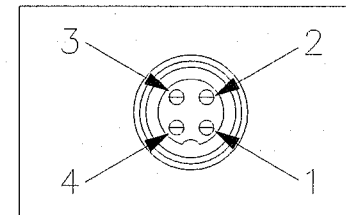

**Fig. 2** Microphone plug wiring
4. Feed the microphone cable through the housing, knurled ring and washer as shown Fig. 2.
Be sure that the housing and the knurled ring of Fig. 2 are pushed back onto the microphone cable before starting to solder. If the washer is not captive to the pin receptacle body, make sure that it is placed on the threaded portion of the pin receptacle body before soldering.